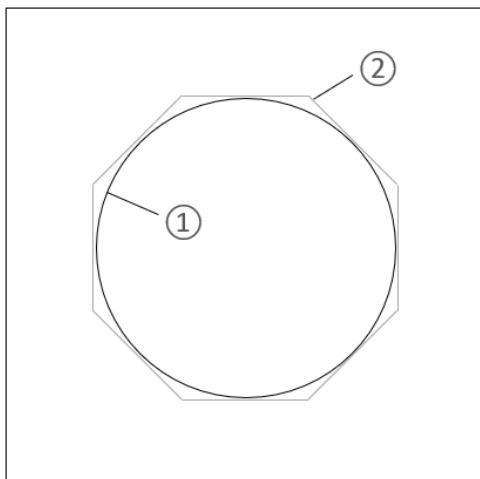

Fig. 12
By limiting the diameter of the light entering the condenser, the field diaphragm ② can prevent other extraneous light from entering the microscope, thereby increasing image contrast. When the image is just outside the edge of the field of view ①, the objective can show the best performance and obtain the clearest image (Fig. 12).